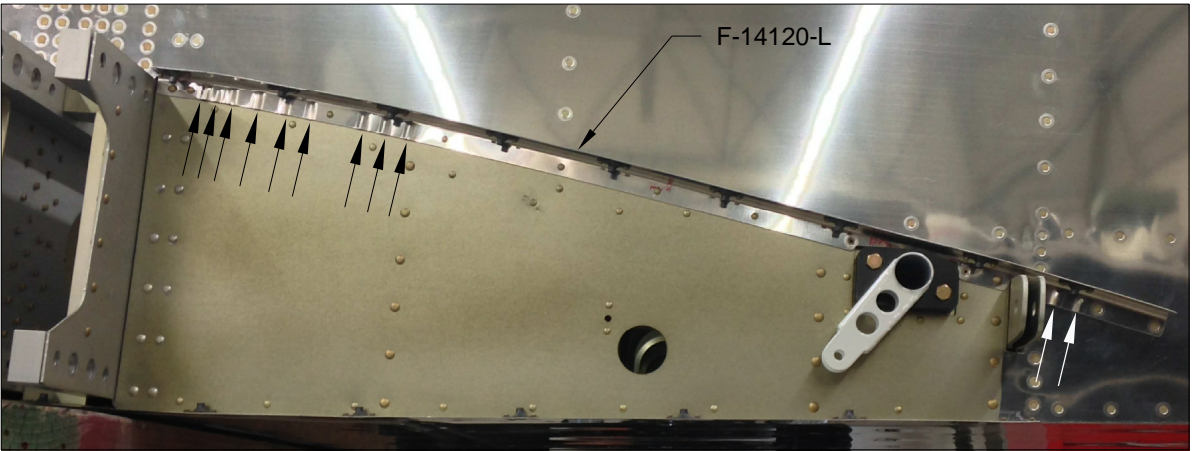

FIGURE 3: SUGGESTED F-14120-L WING ROOT FAIRING FLUTING
Step 6: Use temporary rivets in the two forward most holes in the F-14120-L Root Fairing Attach Angle as alignment pins while fluting the **vertical** flanges of the F-14120-L Root Fairing Attach Angles as necessary align the holes in the flange with the holes in the side skin. Work from the forward end and move aft, fluting as required. See Figure 3 for suggested fluting locations.